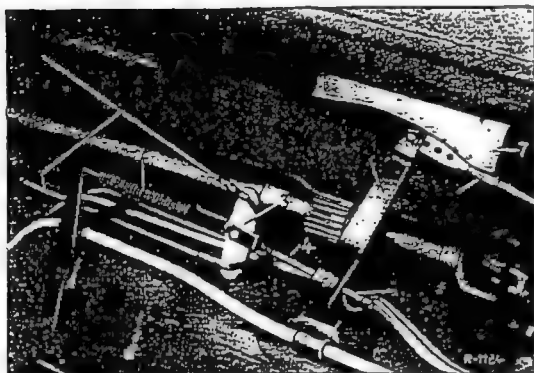

Fig. 42-19/2
4. During installation make sure that the brake cable at the multiple eyelet is properly fastened in the relay lever (5), i. e. when the hand brake is applied the relay lever must not bear against the guide end (7) (Fig. 42-19/2).